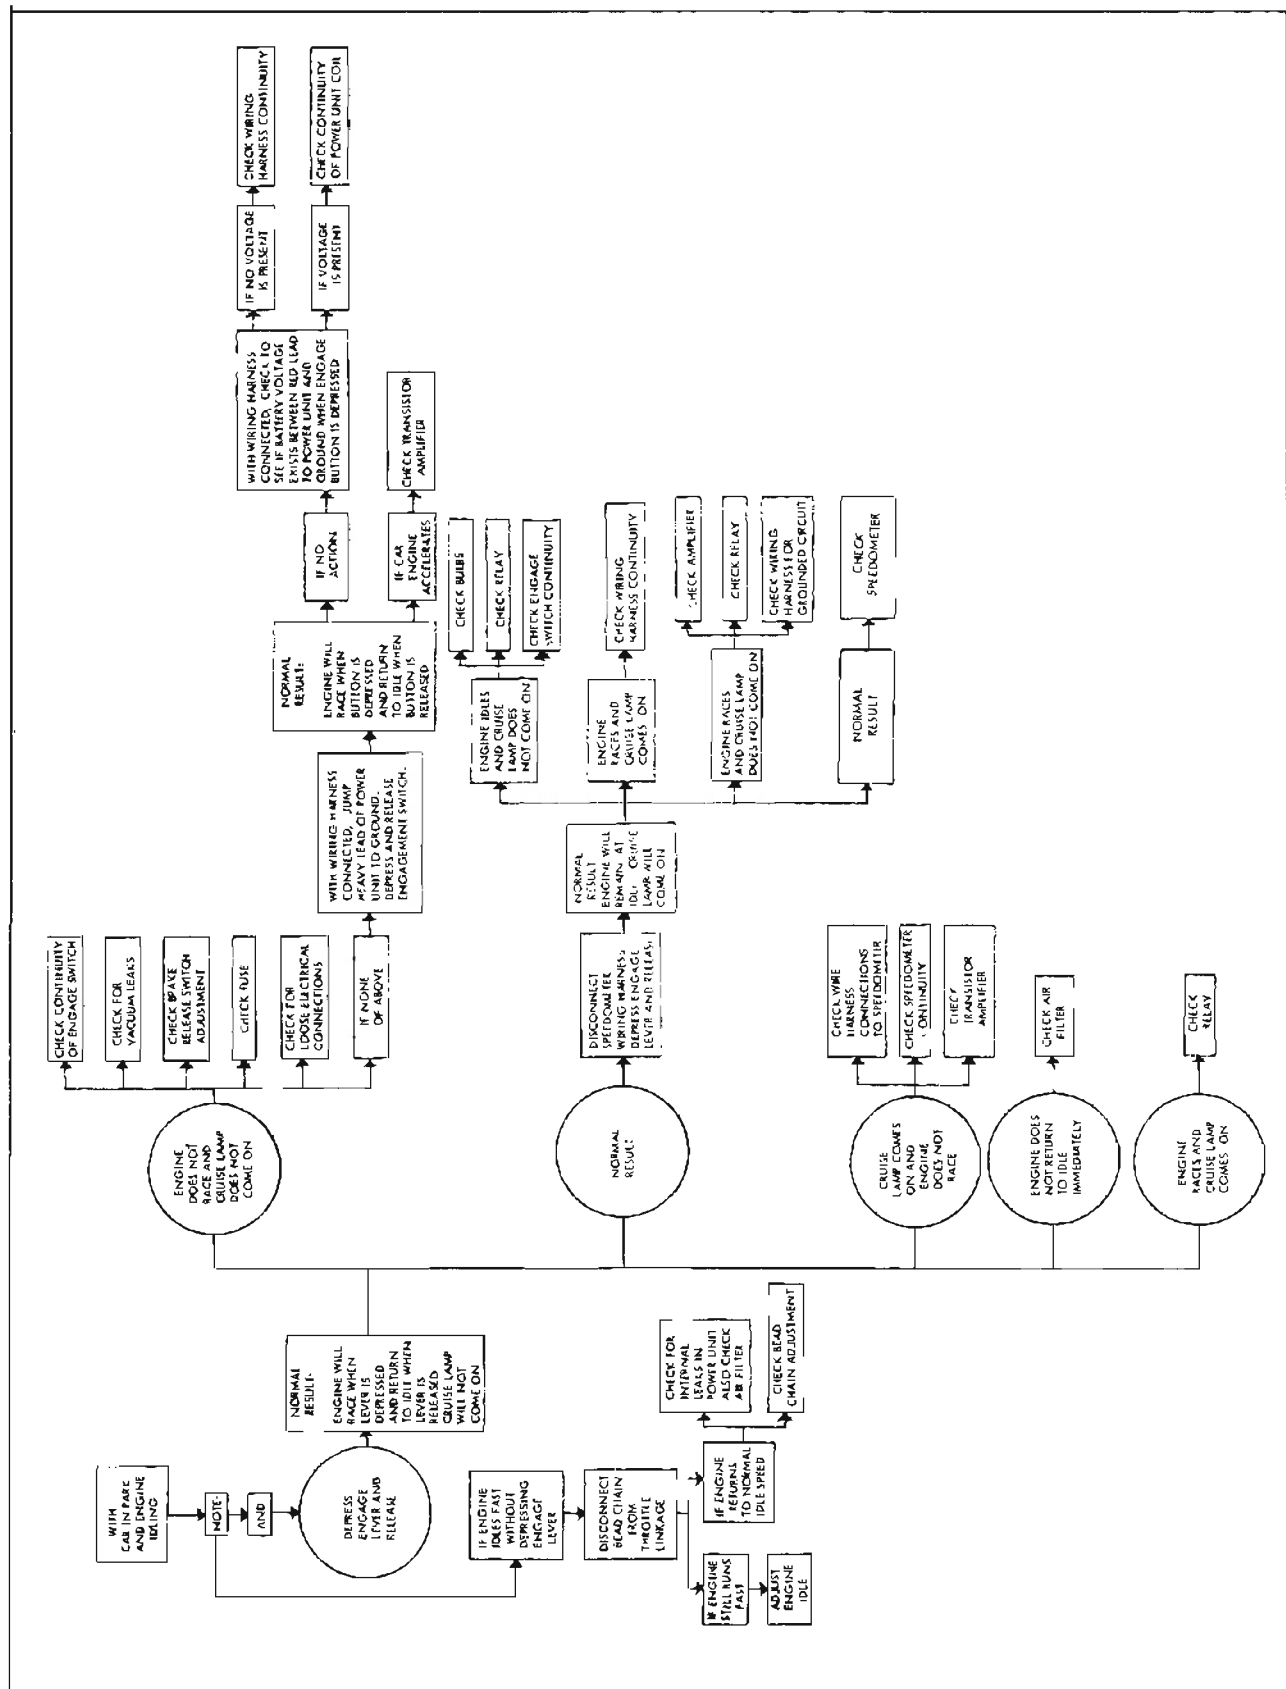

Figure 11-183—Electro-Cruise Trouble Diagnosis Test Procedure Chart
Whenever a specific complaint is encountered with the Electro-Cruise system, the Trouble Diagnosis Chart should be used for reference as to the complaint and its possible cause. Whenever a general complaint is encountered, the Trouble Diagnosis Test Procedure Chart (figure 11-183) should be used to determine the area of malfunction. Since the procedures outlined in this chart are performed with the car stationary, it may be necessary, in some cases, to road test the system to determine the specific complaint.
1. The first method is to substitute a known good amplifier and perform the procedure outlined in the Trouble Diagnosis Test Procedure chart, Figure 11-183 or road test the car to determine whether or not the condition has been corrected.